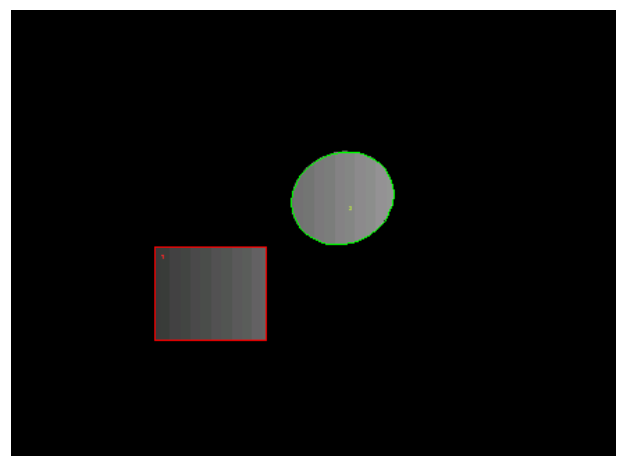

Fig. 188 Image with two defined regions used for imaging
E.g., if Acquisition is checked, only the defined region is illuminated (**LSM imaging** mode only) and displayed (Fig. 188). Any combination of these tasks is possible.